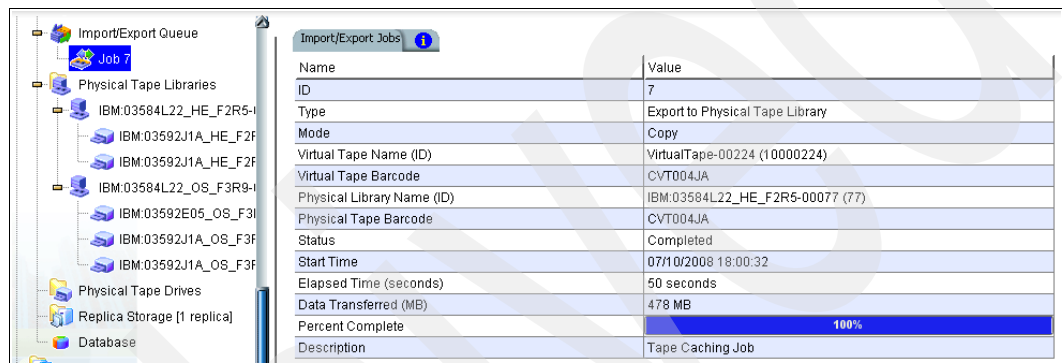

Figure 12-52 Migration job on input/output queue
4. When tape migration job executes, the job is listed in the Import/Output Queue. When you select the migration job, you can monitor the progress of the migration, as shown in Figure 12-52.